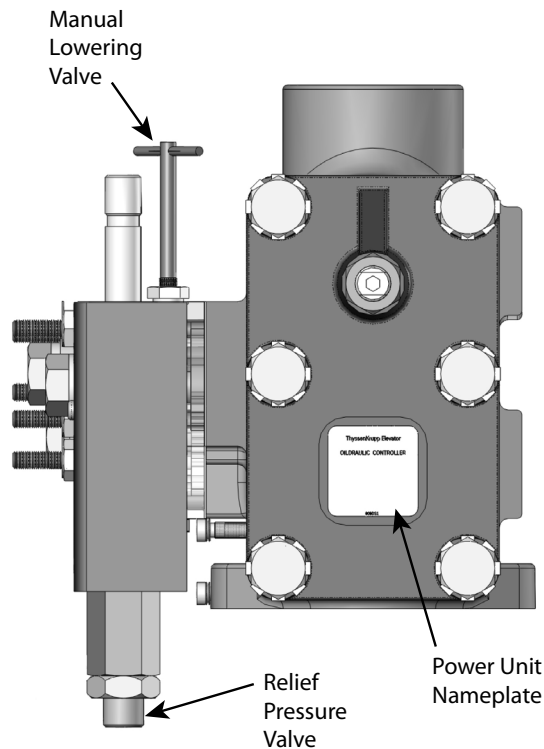

Figure 4 - Relief Pressure Adjustment
3. Adjust the relief valve to relieve at the pressure indicated on the power unit nameplate. See Figure 4 on page 12 - 6.